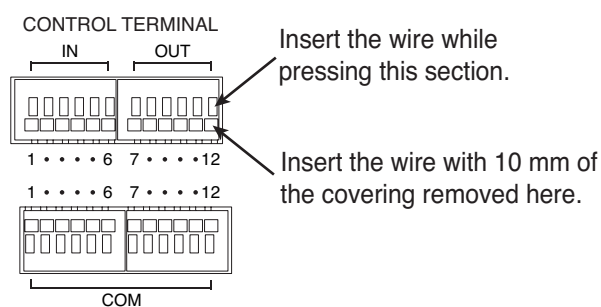

Fig. 3-10 CONTROL TERMINAL
3. Insert the wires in the CONTROL TERMINAL as shown in Fig. 3-10.